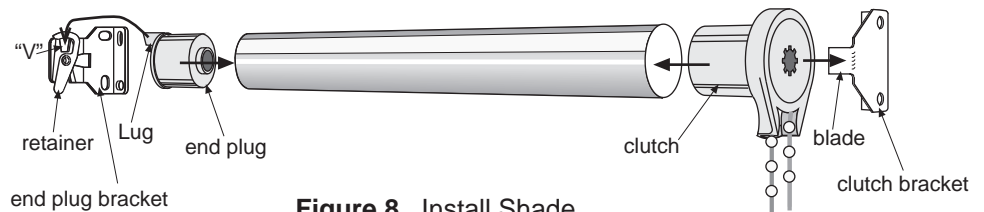

Figure 8. Install Shade
Step 6. Inserting the clutch and the end plug in the roller as shown in Fig. 8.